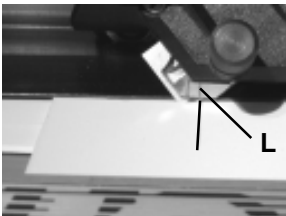
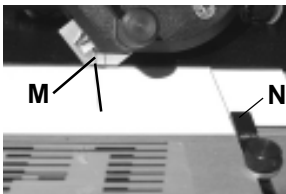

Figure 10
Figure 11
1. Insert the **Locator Pin** for the desired border width and place a mat under the **Clamp** in the usual position for bevel cutting. CAUTION: Be sure the lower left edge of the mat rests against the **Mat Stop (N)** in Figure 11. Make the four pencil lines as described previously.
5. Set the **Lower Measuring Stop (H)** at the same border width on its scale mounted on the top of the **Clamp**. See Figure 9. Starting at the upper position, insert the blade through the mat. The right hand scribed line on the **Magazine (L)**, in Figure 10, should line up with the pencil line and the **Sight Gage** should also be in line with the pencil line. Now pull the **Cutting Head** toward the **Lower Measuring Stop** in the usual way. It should hit the **Lower Measuring Stop** when the blade has passed the lower horizontal line about 1/8" (3mm). The left scribed line (**M**) on the **Magazine** should now be in line with the pencil line, see Figure 11. If necessary, adjust the **Stop Screw (J)** on the **Lower Measuring Stop** to achieve the 1/8" (3mm) dimension. Lock the **Stop Screw (J)** in place by tightening its **Jam Nut (K)**.